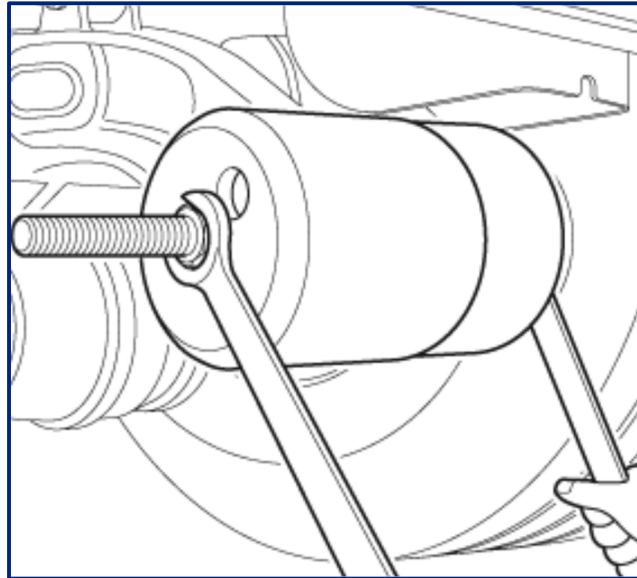

Fig 21
14. Apply turning moment to the nut "A" at the bearing end, continue turning the nut until the pivot bush is drawn completely into the funnel "D" (Fig 21).